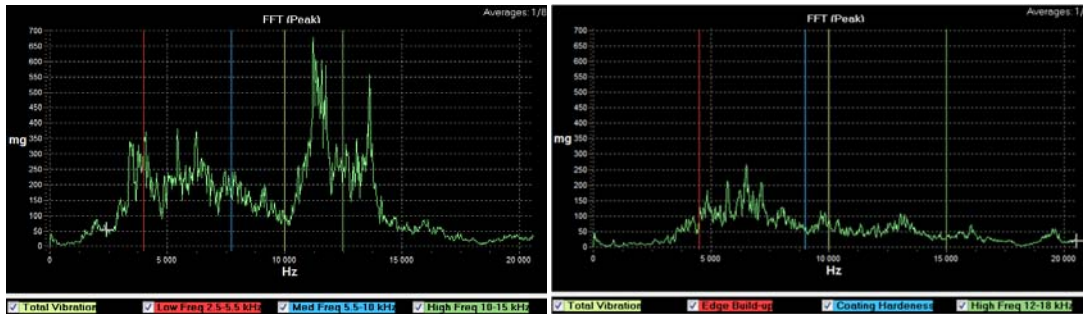

Figure 8: Impact of high performance cleaning blade installation on crepe blade vibration
In this case, the machine runs a 80° high performance crepe blade. In Figure 8 above, on the left is the FFT spectrum with the intermittent steel cleaner and on the right with a continuous ceramic cleaning blade. Over an extended period, overall vibration was reduced by 47% and the machine was able to break free of a two (2) month grind cycle.